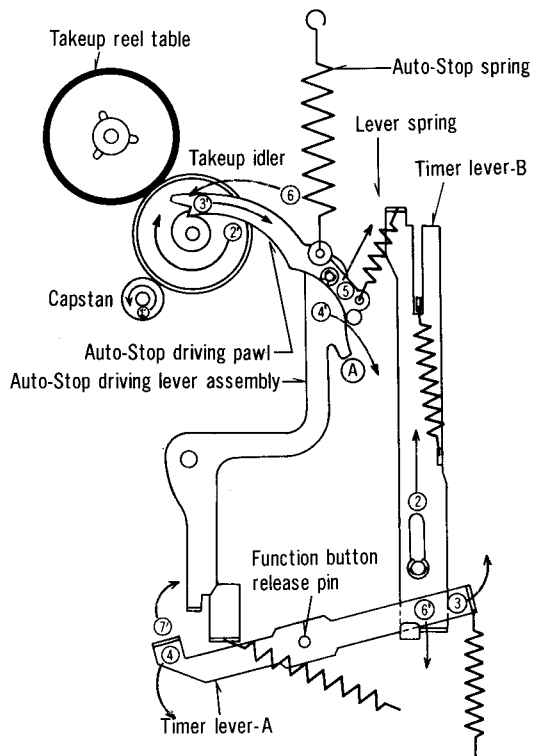

Fig. 1
The explanation of this mechanism will be made based on the drawings which are described as shown in fig. 1, 2 and 3.
- (1) When the power ON/OFF switch is turned **"OFF" position** (with the timer stand-by button in the **"ON" position**) as shown in fig. 1 and 2.
3. When the timer lever-C is moved in the direction of arrow (), timer lever-B and timer lever-A move at the same time in the directions of arrows () and () and () as shown in fig. 1.
- (2) When the power ON/OFF switch is turned **"ON" position** (with the timer stand-by button in the **"ON" position**) as shown in fig. 1 and 2.
3. When the takeup idler rotates, the Auto-Stop driving pawl is pushed outward in the direction of arrow (), and the Auto-Stop driving lever assembly functions in direction shown by arrow (). See fig. 1.